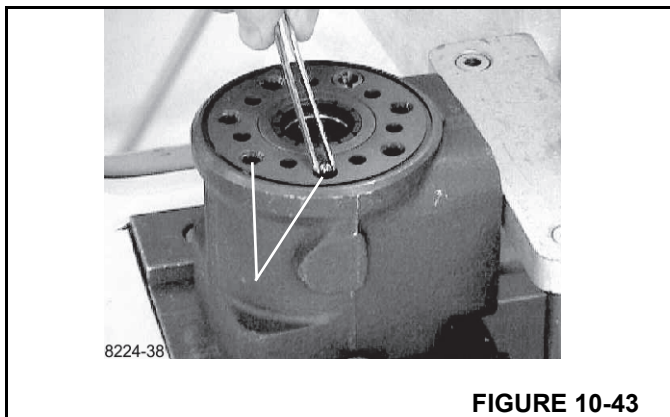

FIGURE 10-43
18. Place a ball in the two holes indicated (Figure 10-43).